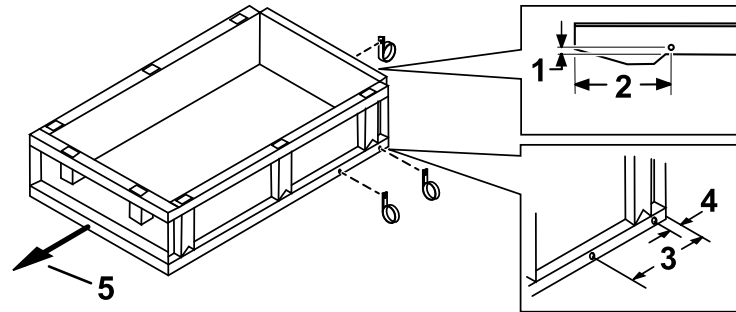

Figure 3
1. Locate and mark the hole location on the bed (Figure 3).
2. Use a 13/32 inch drill bit and drill a hole at the locations that you marked (Figure 3).